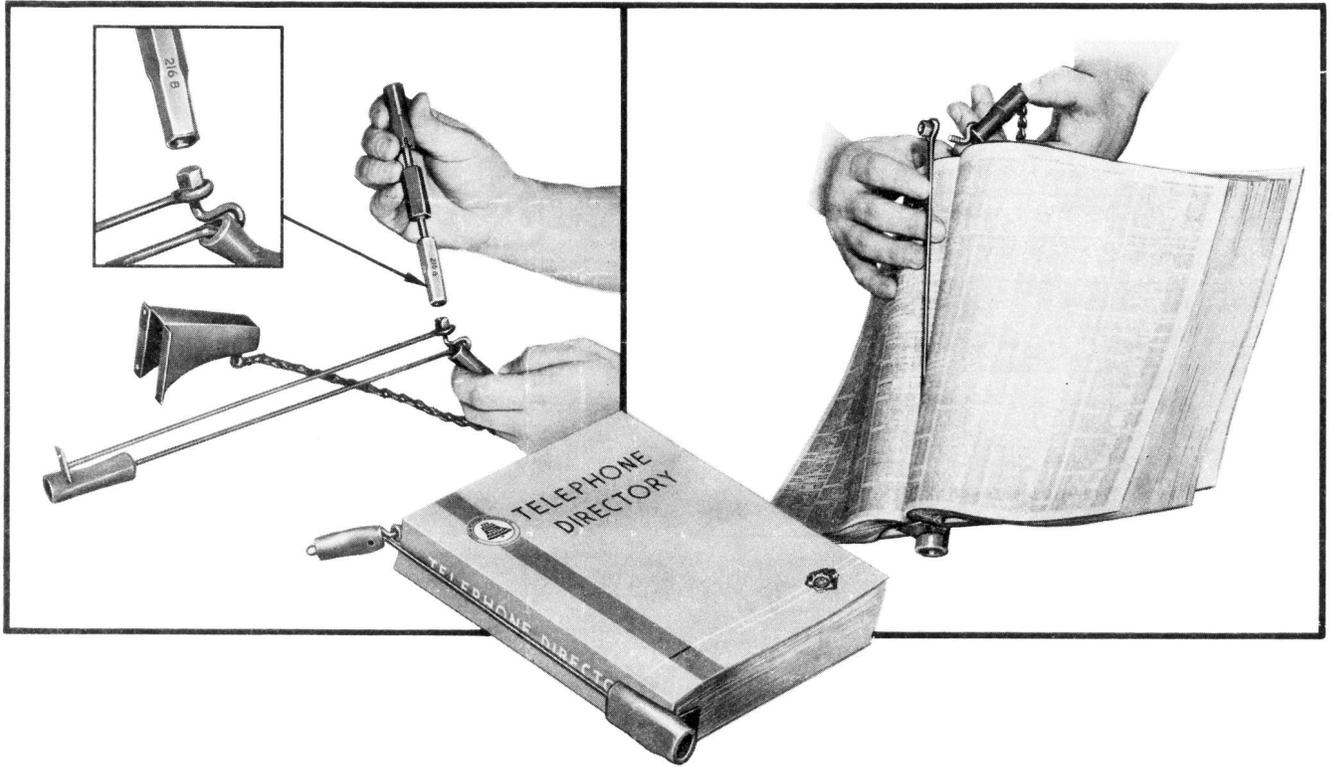

Fig. 5—Installing Directory in KS-13350 Hanger Clamps
**2.07** Place directory in KS-13350 hanger clamps as shown in Fig. 5.